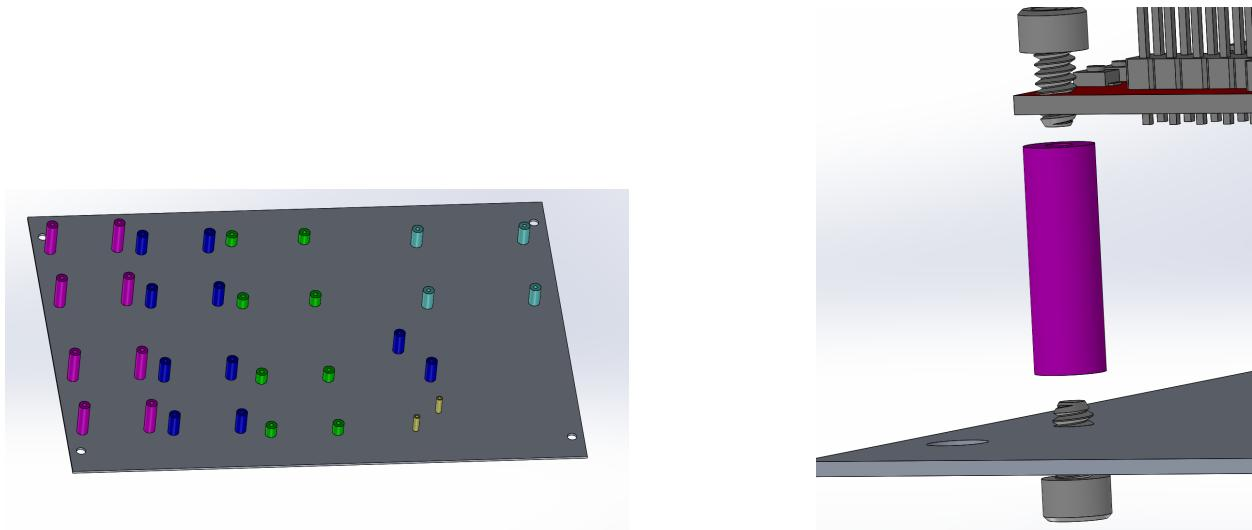

Figure 7: Electronics Board Step 1
1. **Attaching the Standoffs** There are a few different standoffs here. By using different standoff heights, we gain access to the micro USB port on each of the individual Robo-Claws. The Raspberry Pi also has its own metric standoffs. In Figure 7, the colors